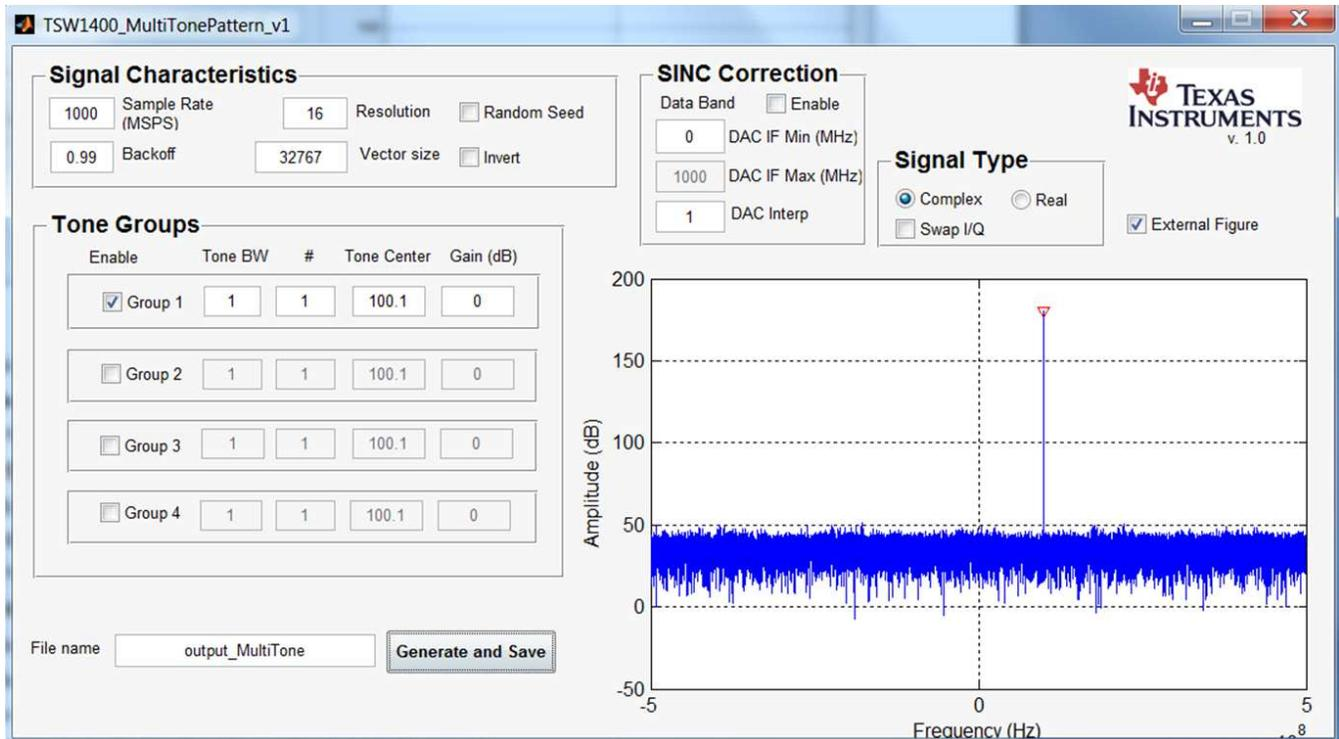
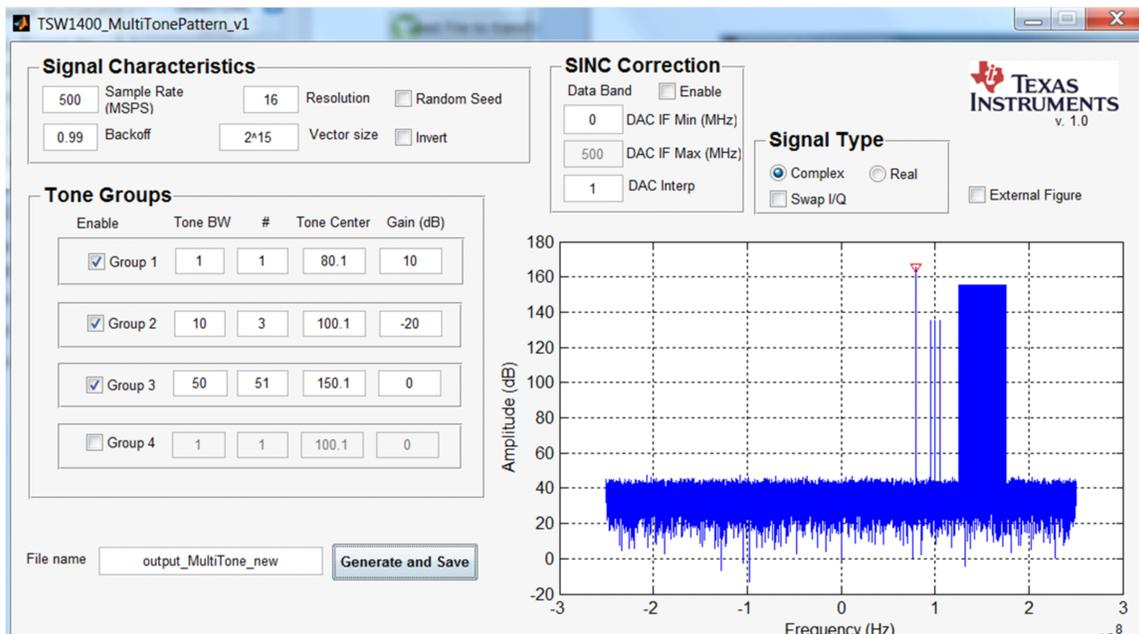
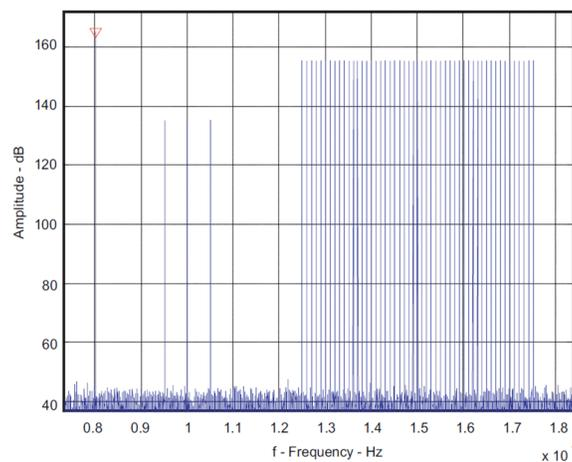

Figure 4. TSW1400 MultiTonePattern User Interface
Figure 5. Generated Three Tone Group
Figure 6. Magnified Spectral Plot of Three Tone Group
The TSW1400_MultiTonePattern program can automatically generate a test pattern with single or multiple tones. The patterns can be complex or real. Figure 4 shows the TSW1400 MultiTonePattern user interface generating a pattern using the default settings, a vector size of 32767 ($2^{15}-1$) and clicking the **Generate and Save** button.
When checked, a separate window displays the amplitude of the pattern in dB vs. frequency. For real patterns, only the positive frequency amplitudes display. A red, inverted triangle (Figure 4) identifies the largest amplitude tone. If there are multiple tones with the same power (Figure 5), the lowest frequency is identified with the triangle.
1. Set up the MultiTonePattern user interface as shown in (Figure 5). Change the sample rate to 500 MSPS and the Tone groups as shown in Figure 5. Keep the other parameters at their default values.
The amplitude spectral plot for this pattern displays as shown in Figure 5. The standard MATLAB figure control (magnifying glass) is used to zoom in on the displayed tone group and see the individual tones (Figure 6). To access this functionality, check External Figure before clicking on the **Generate and Save** button.